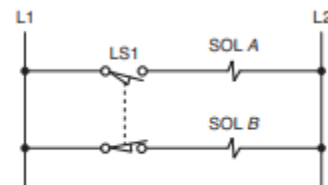

Figure 5-54 Hardwired circuit for Problem 6.
85. Draw the equivalent ladder logic program used to implement the hardwired circuit drawn in Figure 5-54, wired using: a. A limit switch with a single NO contact connected to the PLC discrete input module b. A limit switch with a single NC contact connected to the PLC discrete input module